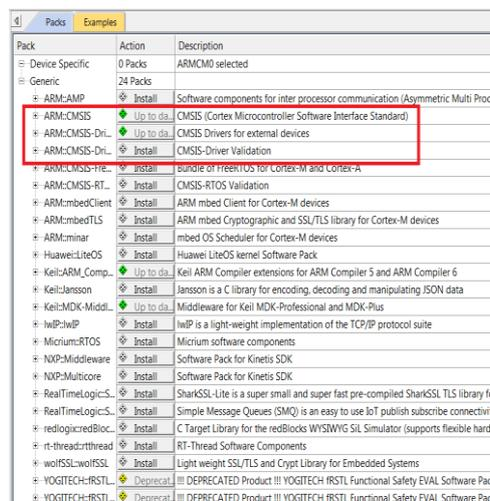

Figure 15: CMSIS Package Installation
2. When the install is complete, a list of packs is shown, see **Figure 15**. If you do not see this list: